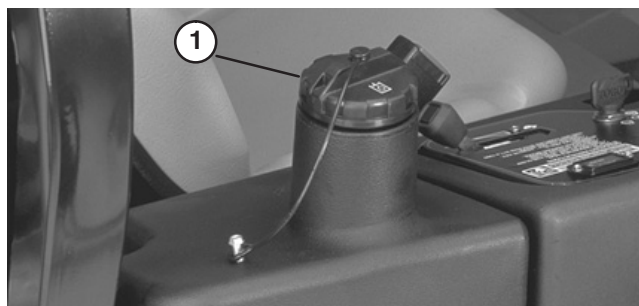

Figure 30
2. Clean area around filler neck and cap of hydraulic tank (Fig. 30). Remove cap from filler neck.